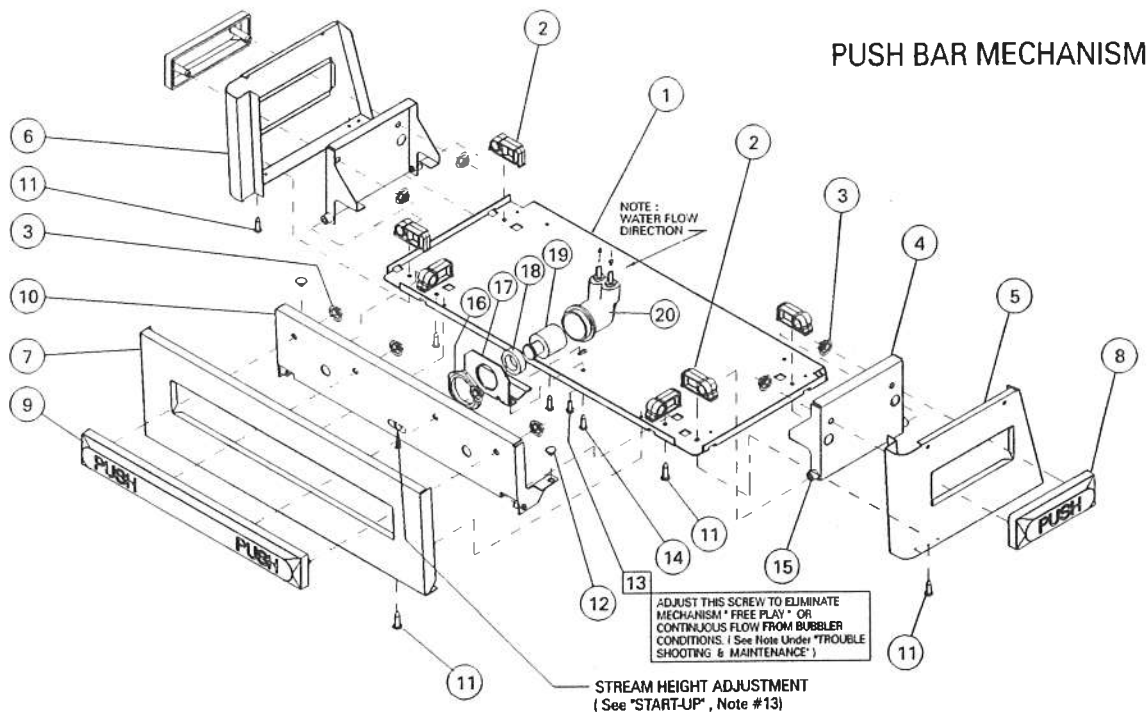

FIG. 5
- 12). Stream height is factory set at 35 PSI. If supply pressure varies greatly from this, adjust screw, accessible by removing front push panel (Item 7, Fig. 5). CW adjustment will raise stream and CCW adjustment will lower stream. For best adjustment, stream should hit basin approximately 6-1/2" from bubbler.
- 16). Replace the front panel and secure by re-tightening four (4) screws on each unit.